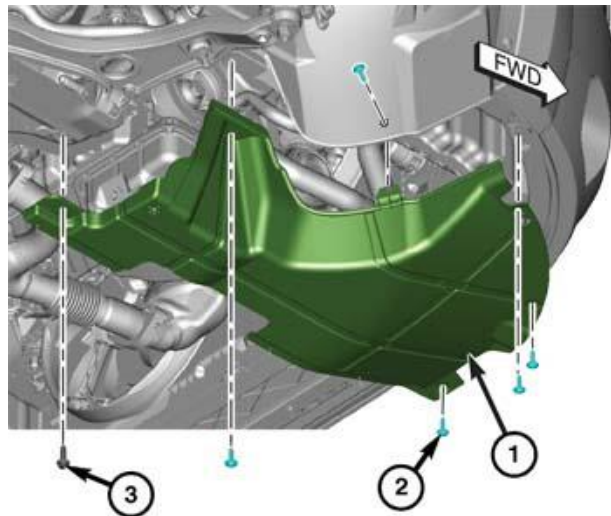

Figure 8 – Right Side Underbody Shield
9. Remove the fastener (3) that secures the right side underbody shield (1) to the cradle (Figure 8).
10. Remove the five fasteners (2) that secure the right side underbody shield (1) to the fascia and wheel liner (Figure 8).
11. Remove the right side underbody shield (1) from the vehicle (Figure 8).
19. Install the right side underbody shield (1) to the vehicle (Figure 8).
20. Install the five fasteners (2) that secure the right side underbody shield (1) to the fascia and wheel liner, tighten securely (Figure 8).
21. Install the fastener (3) that secures the right side underbody shield (1) to the cradle, tighten to 20 N·m (15 ft lbs). (Figure 8).